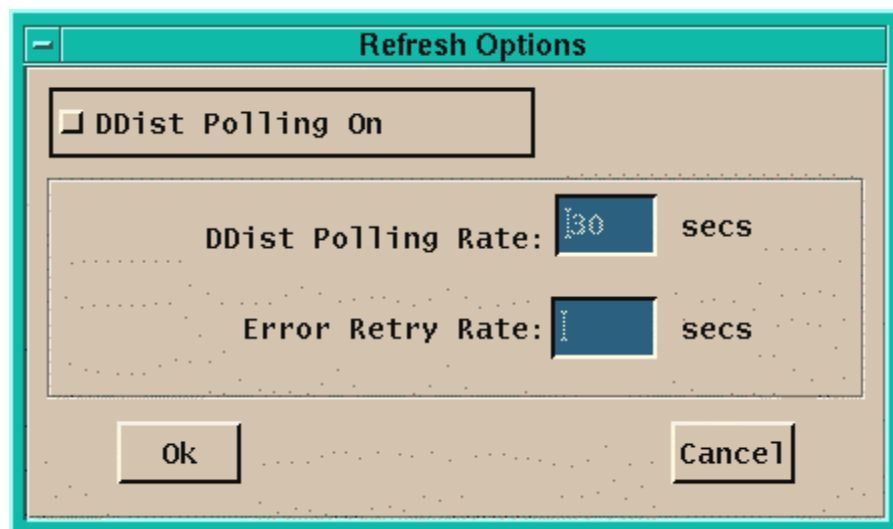

Figure 4.10.3-2. Refresh Options Window
- **System Settings** opens the Refresh Options window where the operator is given the option to toggle the **DDist base polling On** and **Off** through the provided toggle button (see Figure 4.10.3-2). In case the operator decided to have the polling of the Data Distribution Database **On**, the polling rate is editable. Details on the parameters that can be input by the operator in the Refresh Options screen are provided in Table 4.10.3-3
- **Filter (from the Options menu)** brings up the Filter Request Dialog (see Figure 4.10.3-3) which provides a selection of attributes from the list of distribution requests on which to filter. Filter on **Request ID** and **Requester** is done by selecting the corresponding toggle button and entering the desired information. Selecting the **All Requests** radio button returns to the original state of the request list. Further request filtering is allowed by selecting one or more media type list entries. The operator filters on all Media types by clicking the **All** button or clears all selected filters by clicking on the **None** button. . Options for the Media Type are determined by entries within the Registry.